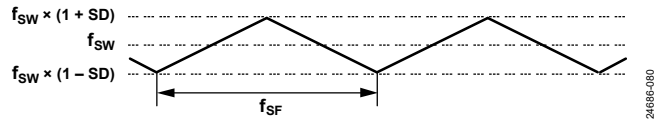

Figure 80. Triangular Spreading
The ADP5140 integrates a triangular frequency spread architecture to reduce system EMI, as shown in Figure 80. The frequency spread spectrum function can be enabled or disabled through the `SP_EN` bit in the `FREQ_CONFIG` register. The `SP_EN` bit is disabled by default. The sweep frequency ( $f_{SF}$ ) and sweep depth (SD) can be programmed through the SPI register, `FREQ_CONFIG`, as shown in Table 19 and Table 20.